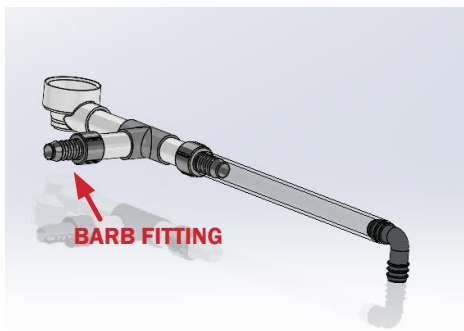

Fig. 30 Install PVC Drain Adapter
4. Install the PVC Drain Adapter to the Drain spout at the bottom of the case. Before gluing the PVC parts, ensure the barb fitting on the T-section is pointing to the rear of the case (Fig. 30).